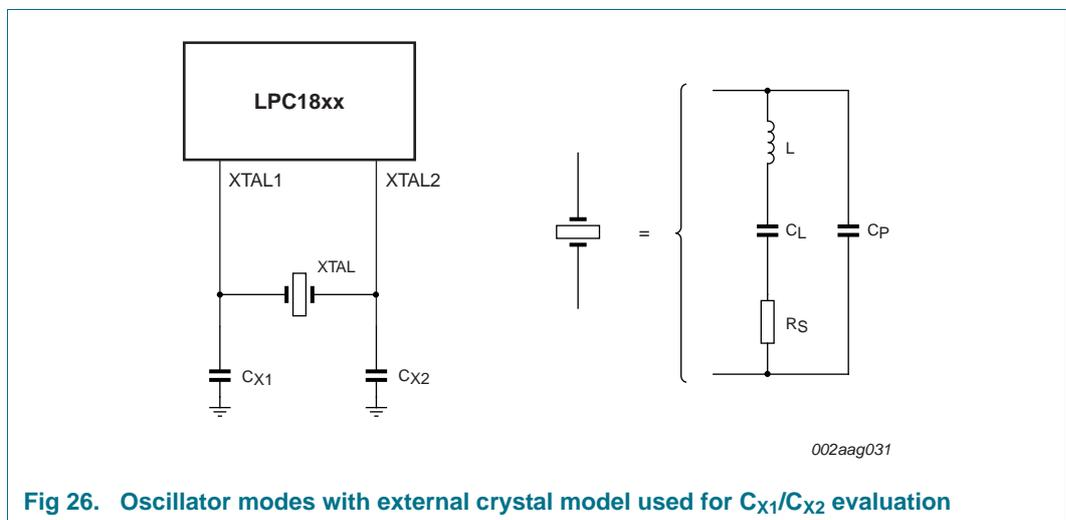

Fig 26. Oscillator modes with external crystal model used for C_{X1}/C_{X2} evaluation
- External components and models used in oscillation mode are shown in Figure 26, and in Table 22 and Table 23. Since the feedback resistance is integrated on chip, only a crystal and the capacitances C_{X1} and C_{X2} need to be connected externally in case of fundamental mode oscillation (the fundamental frequency is represented by L , C_L and R_S). Capacitance C_P in Figure 26 represents the parallel package capacitance and should not be larger than 7 pF. Parameters F_C , C_L , R_S and C_P are supplied by the crystal manufacturer.